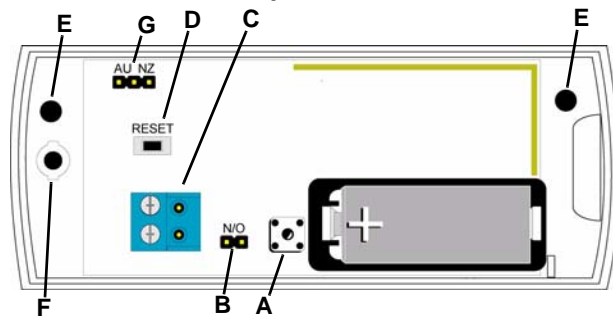

Figure 1 EN1215EOL components
1. When prompted by the receiver to reset transmitter, press the **Reset** button (Figure 1).
2. Mount the transmitter to the wall using the the wall-mount screw holes (Figure 1), ensuring the housing is flush against the wall and the wall tamper switch is firmly depressed.
4. Secure the housing through the enclosed housing screw hole (Figure 1). Accessing this screw on an active transmitter requires opening the housing and removing the battery, causing a tamper condition.